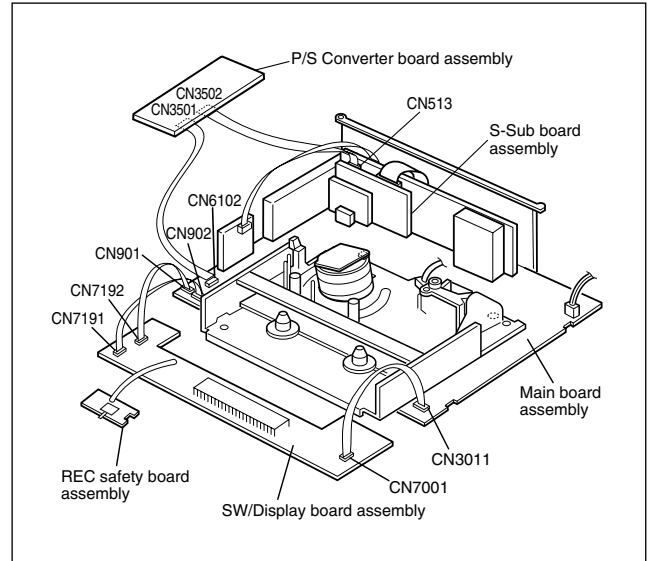
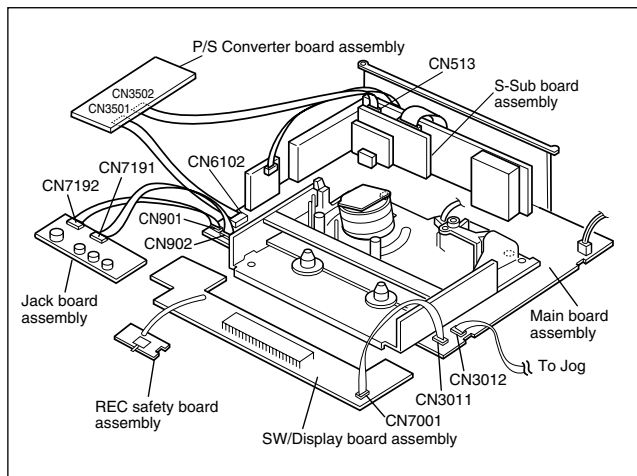

Fig. 1-4-3
Fig. 1-4-4
- (10) Place the SW/Display board assembly and REC safety board assembly on the front side of the Mechanism and Main board assemblies which was removed at the step (8), then connect the flat wires into CN3011, CN901 and CN902 of the Main board assembly. (Refer to Fig. 1-4-3.)
- (11) Place the P/S Converter board assembly on the left side of the Mechanism and Main board assemblies, then connect the flat wires into CN6102 on the Main board assembly and CN513 on the S-Sub board assembly. (Refer to Fig. 1-4-3.)
- (10) Place the SW/Display board assembly, REC safety board assembly and Jack board assembly on the front side and left side of the Mechanism and Main board assemblies which was removed at the step (8), then connect the flat wires into CN3011, CN901 and CN902 of the Main board assembly. (Refer to Fig. 1-4-4.)
- (11) Place the P/S Converter board assembly and Jack board assembly on the left side of the Mechanism and Main board assemblies, then connect the flat wires into CN6102 on the Main board assembly and CN513 on the S-Sub board assembly. (Refer to Fig. 1-4-4.)
- (12) Connect the power cord to the wall socket, and lift the cassette holder.
1.4.4 Cassette loading and ejection methods in the "SERVICE POSITION" (See Fig. 1-4-3 or Fig. 1-4-4.)
- (1) Insert a cassette halfway in the Cassette holder assembly.
- (2) Set the switch on the REC safety board assembly to ON (by pressing the switch).
- (3) As soon as the cassette starts to be loaded, set the switch on the REC safety board assembly to OFF (by releasing the switch).
- (4) Now the desired operation (recording, playback, fast forward, rewind, etc.) is possible in this status (the status shown in Fig. 1-4-3 or Fig. 1-4-4).
- **When performing diagnostics of the tape playback or the recording condition in the "SERVICE POSITION", enter the desired mode before turning the set upside down, and do not change the mode when performing diagnostics while the set is placed upside down. If you want to switch the mode, turn the set to the normal position (the status shown in Fig. 1-4-3).**
- (5) The switch on the REC safety board assembly does not have to be operated when ejecting a tape. But be sure to turn the set to the normal position before ejecting the tape.